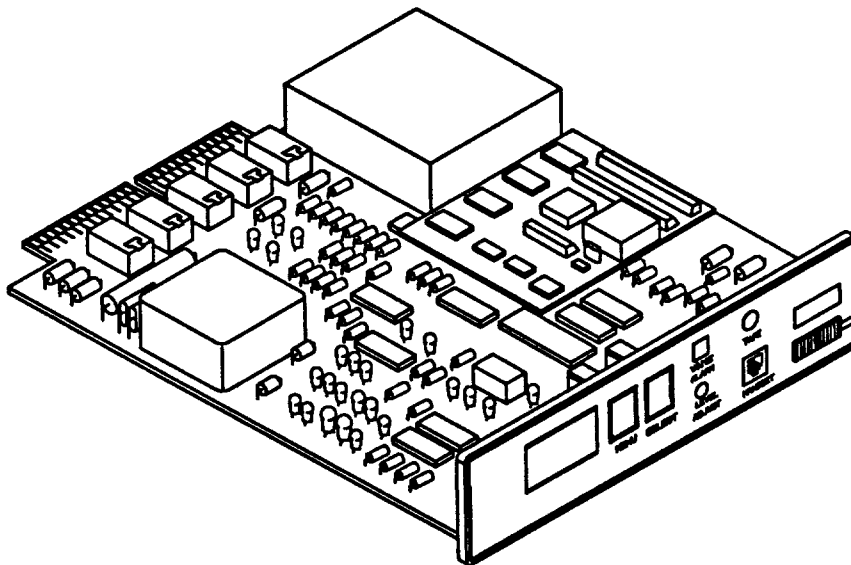

Figure 3. 14A Announcement System ALD5 Circuit Pack
- Code ALD5 (Figure 3) — A record/reproduce unit that uses a RAM and can record a unique announcement of up to 2 minutes in length.